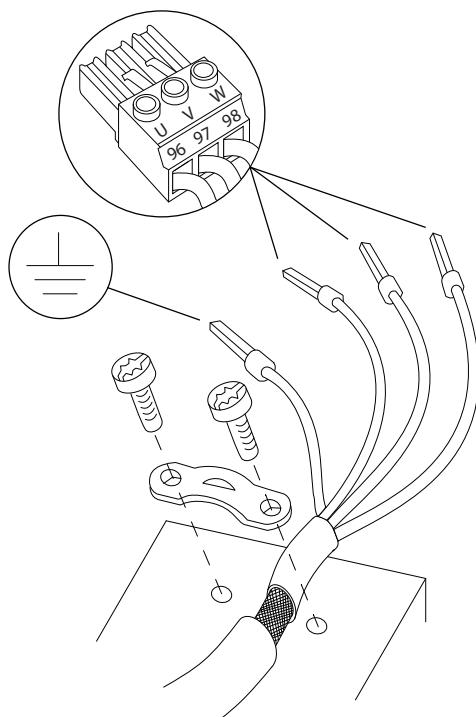

Figure 4.5 Motor Connection
3. Connect the ground wire to the nearest grounding terminal in accordance with the grounding instructions provided in *chapter 4.3 Grounding*, see *Figure 4.5*.
4. Connect the 3-phase motor wiring to terminals 96 (U), 97 (V), and 98 (W), see *Figure 4.5*.